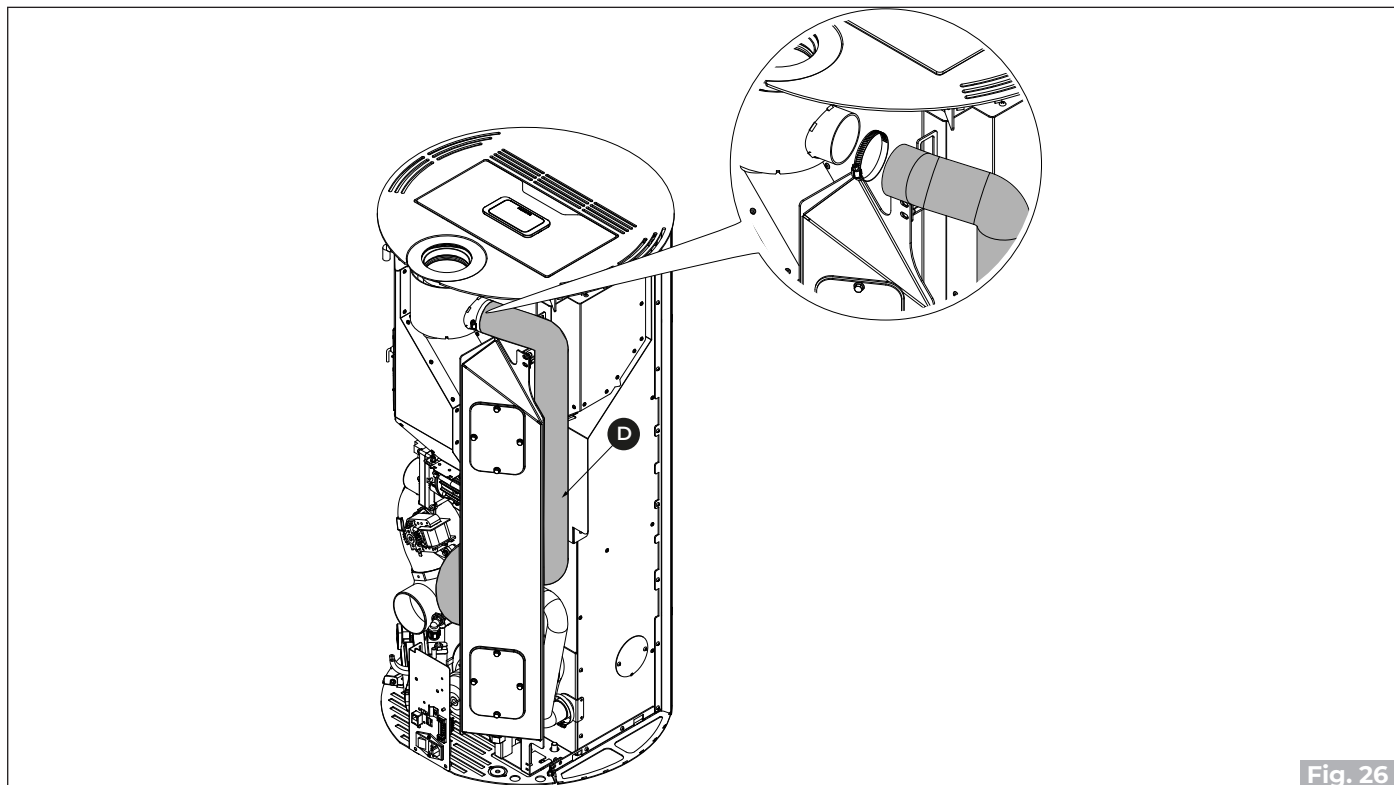

Fig. 26
- Disconnect the combustion air hose **(D)** in the upper part (**"Fig. 26"**).